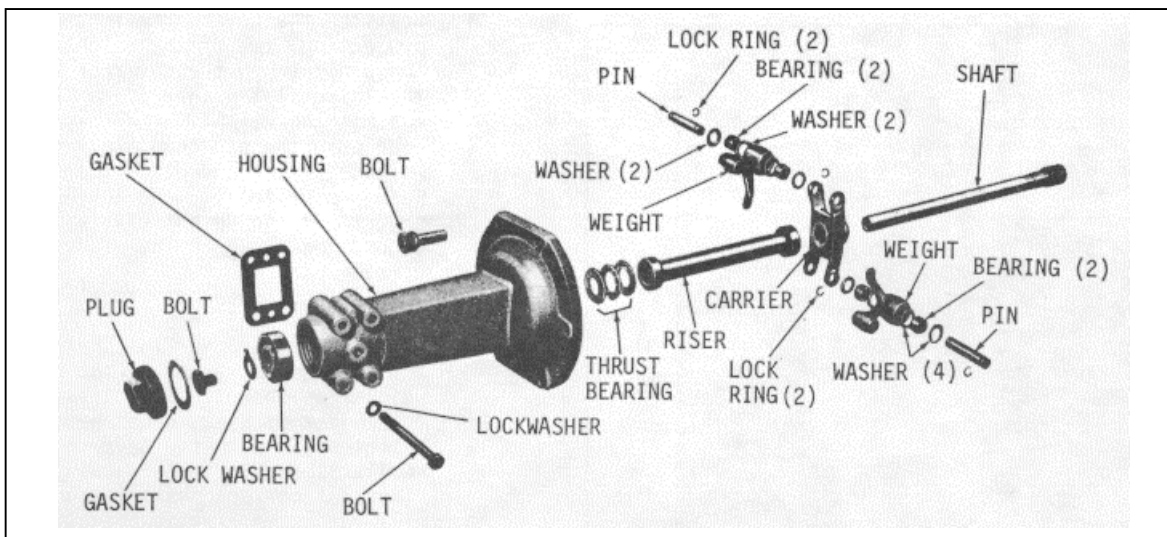
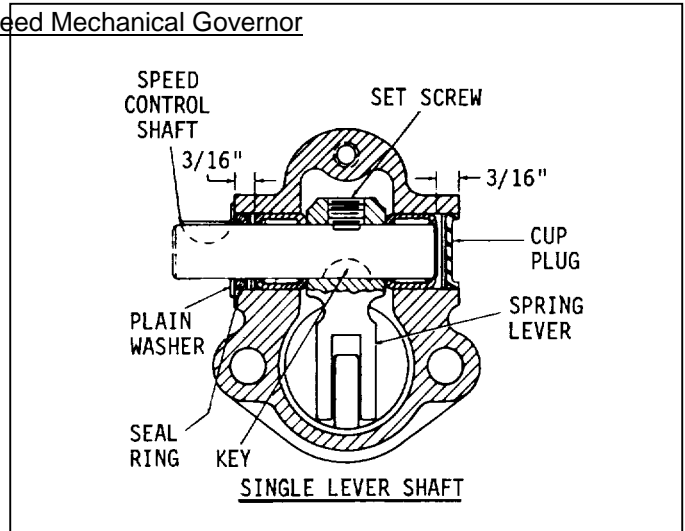
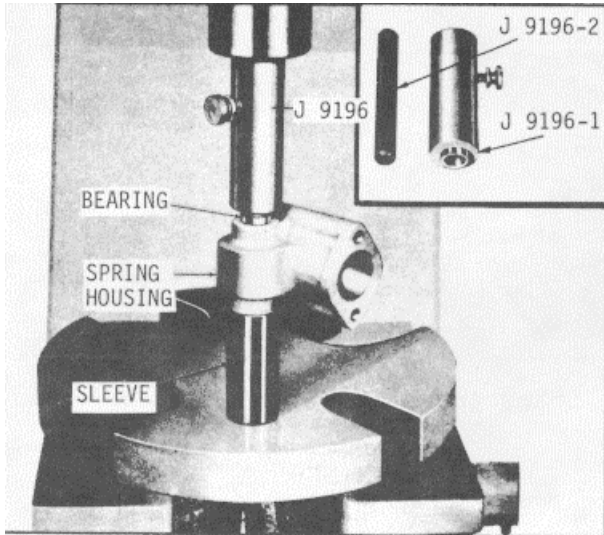

Fig. 9. Governor Weight Housing Details and Relative Location of Parts
Fig. 12. Cross Section of Governor Variable Speed Spring Housings
Fig. 14 Installing Speed Control Shaft Bearings in Spring Housing
- (g) If required, the weight carrier (Fig. 9) may be pressed from the governor weight shaft and a new carrier installed.
- (4) Disassemble the governor variable speed spring housing.
- (b) Loosen the bolt and withdraw the speed control lever (Fig. 1) from the speed control lever shaft. Remove the Woodruff key (Fig. 14) from the shaft.
- (1) Install the lock ring (Fig. 9) in the groove of the weight pin. Place the flat washer over the pin and against the lock ring.
- (2) Start the pin through the opening in the weight carrier. Place the second washer over the pin and against the projecting arm of the weight carrier.
- (3) Position the governor weight between the projecting arms of the weight carrier. Push the pin through the governor weight. Place the third flat washer over the pin and against the weight.
- (4) Then push the pin completely through the weight carrier and place the fourth flat washer over the pin and against the projecting arm of the weight carrier. Install the second lock ring in the groove of the weight carrier pin.
| <p>(9) Support the splined end of the shaft on the bed of an arbor press. Start the shaft end bearing in the housing and cover the end of the shaft with the numbered side of the bearing facing away from the shaft. Press the bearing in place with a sleeve that bears against the inner race.</p> <p>(10) Place a washer (Fig. 9) over the bearing retaining bolt. Thread the bolt into the tapped end of the shaft and tighten it. Bend the tang of the washer against the head of the bolt.</p> <p>(11) Place a gasket in the housing and against the bearing. Apply a Loctite sealant, grade HV, or equivalent, to the full 3600 circumference of the end plug and thread the plug into the tapped end of the governor weight housing. Tighten the plug to 45ft-lbs (61 Nm) torque with either the flat or the point of the head on a horizontal line.</p> | <p>(4) If removed, install the spring lever Woodruff key in the center keyway in the speed control lever shaft.</p> <p>(5) Place the spring lever assembly between the bearing bores inside the spring housing with the arm (roller end) of the lever facing out.</p> <p>(6) Insert the correct end of the single or double lever type, speed control lever shaft (Fig. 12) through the bearing bore in the side of the spring housing, opposite the bearing previously installed. Align the key in the shaft with the keyway in the spring lever, and push the shaft through the lever and in the bearing until the flat on the top of the shaft is centered under the set screw hole in the lever.</p> <p>(7) Thread the set screw into the spring lever, making sure the point of the screw is seated in the flat on the shaft.</p> <p>(8) Place the second speed control lever shaft needle bearing, numbered end up, over the protruding end of the shaft and start it straight in the bore of the housing.</p> <p>(9) Remove the bearing pilot rod J 9196-2 from the installer body J 9196-1 and place the installer body over the end of the shaft and against the bearing. Support the spring housing, bearings and installer on a short sleeve on the bed of an arbor press as shown in Fig. 14, then press the bearing in the housing until the shoulder on the installer contacts the housing.</p> <p>(10) Apply a thin coat of sealing compound to the outside diameter of the cup plug. Start the cup plug straight in the bearing bore in the housing, then support the spring housing, bearings and shaft assembly on a sleeve on the bed of an arbor press, and press the cup plug in flush with the outside face of the housing (Fig. 12).</p> <p>(11) Clamp the spring housing assembly in a bench vise equipped with soft jaws. Then tighten the spring lever retaining set screw to 5-7 ft-lbs (7-10 Nm) torque.</p> |
- (1) Refer to Figs. 12 and 13. Lubricate the speed control lever shaft needle bearings with Shell Alvania No. 2 grease, or equivalent. Then start one of the bearings, numbered end up, straight in the bearing bore in the right-hand side of the spring housing.
- (2) Install the needle bearing pilot rod J 9196-2 in the installer body J 9196-1 and secure it in place with the retaining screw.
- (3) Place the pilot rod end of the bearing installer assembly in the bearing. Support the spring housing, bearing and installer on a short sleeve on the bed of an arbor press as shown in Fig. 14, then press the bearing in the housing until the shoulder on the installer contacts the housing.
- (2) Place a new copper gasket on each weight housing-to-blower bolt and thread the bolts into the blower end plate, finger tight only.
- (3) Place a new gasket (Fig. 9) over the dowels and against the side of the weight housing facing the engine.
- (4) Move the thrust bearing assembly and riser toward the weight end of the shaft.